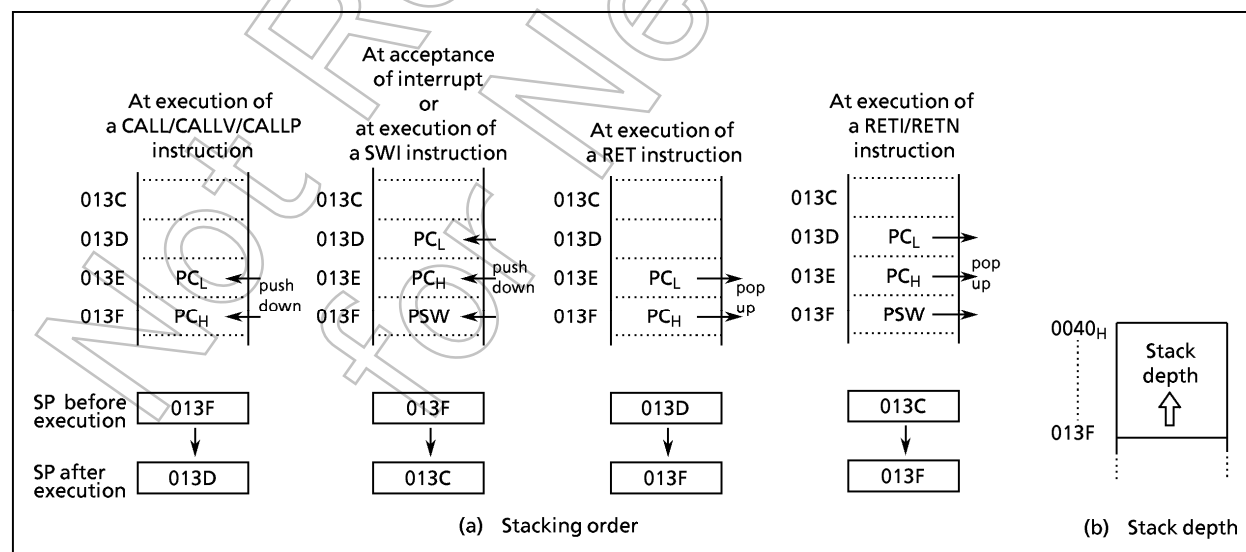

Figure 1-8. Stack
1.7.2 Stack pointer (SP)
The stack pointer (SP) is a 16-bit register to point out the first start address on the stack. The SP is post-decrement when a subroutine call or a push instruction is executed, or when an interrupt is accepted; and the SPC is pre-incremented when a return or a pop instruction is executed. The stack deepens to the direction of the lower address. Figure 1-8 shows the change of the stack access and the SP.